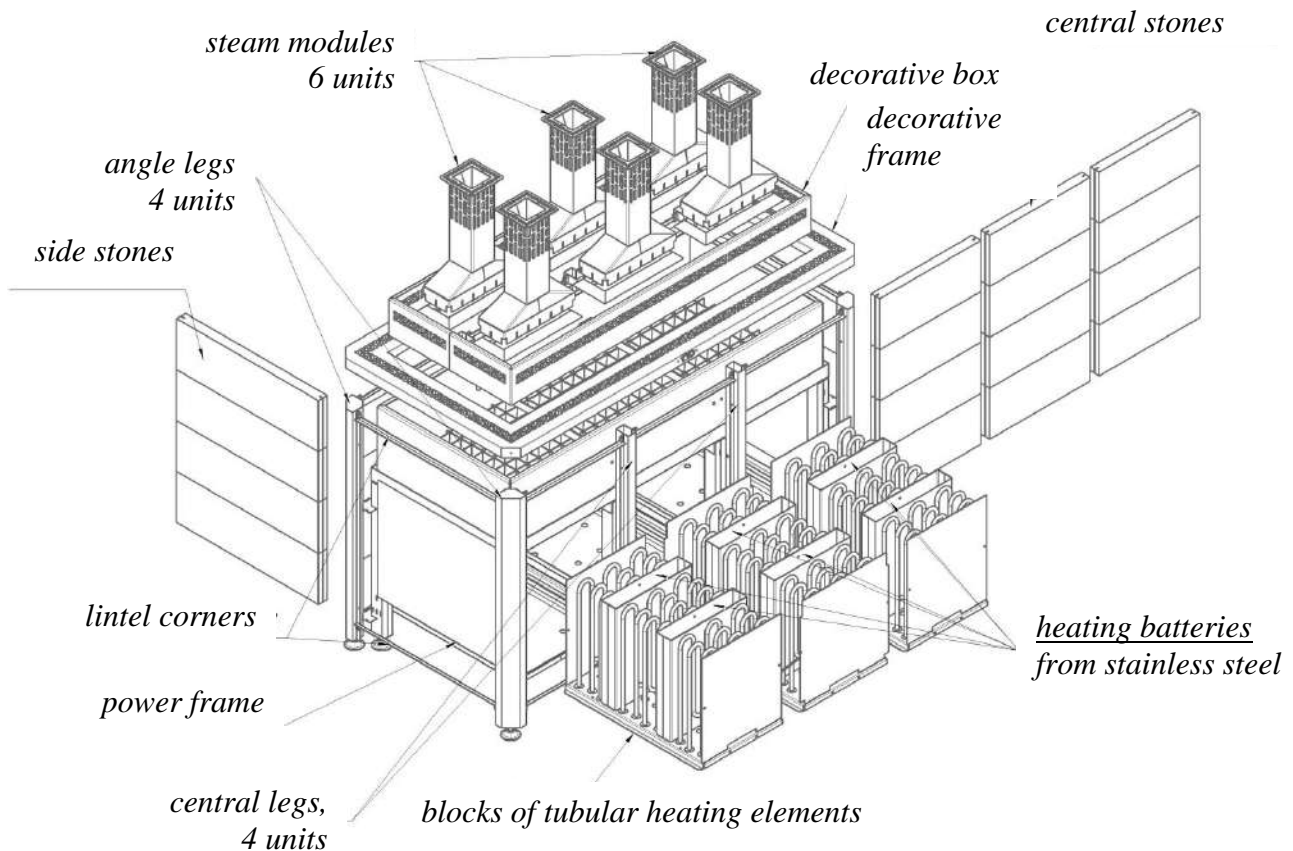

Fig. 1 Assembly in stone of the electric heating device "Premiera Profi"
1. Install the stove load-bearing frame on a flat base (Fig. 1), put the stone grate in it.